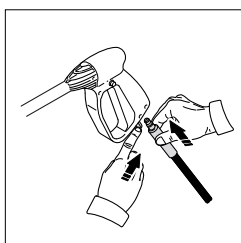
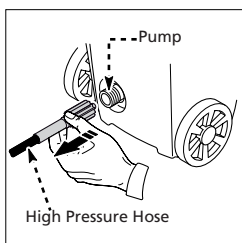

Fig. 18
Fig. 19
- Remove high pressure hose from the spray gun (Fig.18) and unscrew the other end of the high pressure hose from the power washer (Fig.19).